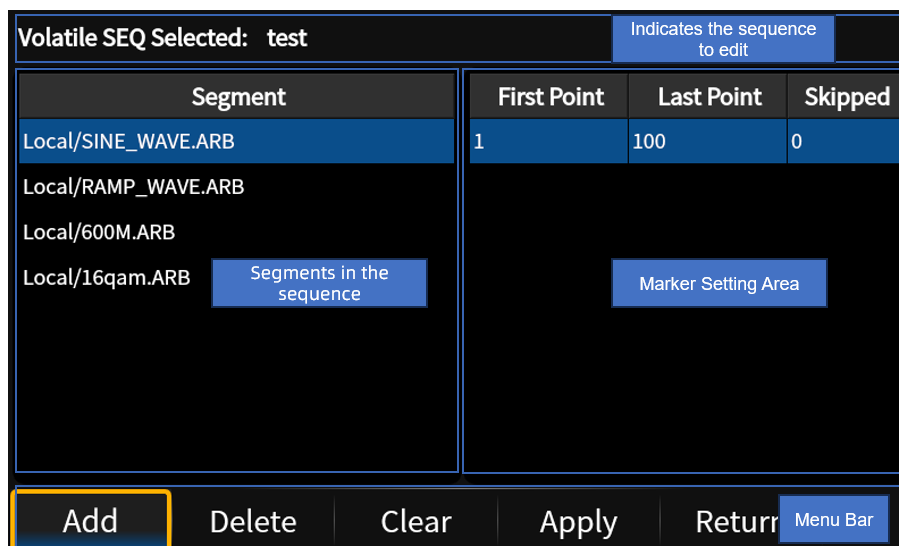

Figure 8-18 Sequence marker setting interface
- If you choose to play a waveform sequence, the marker point setting interface will display the list of waveform segments contained in the sequence, and you can select the waveform segments one by one to edit their markers, as shown in Figure 8-18.